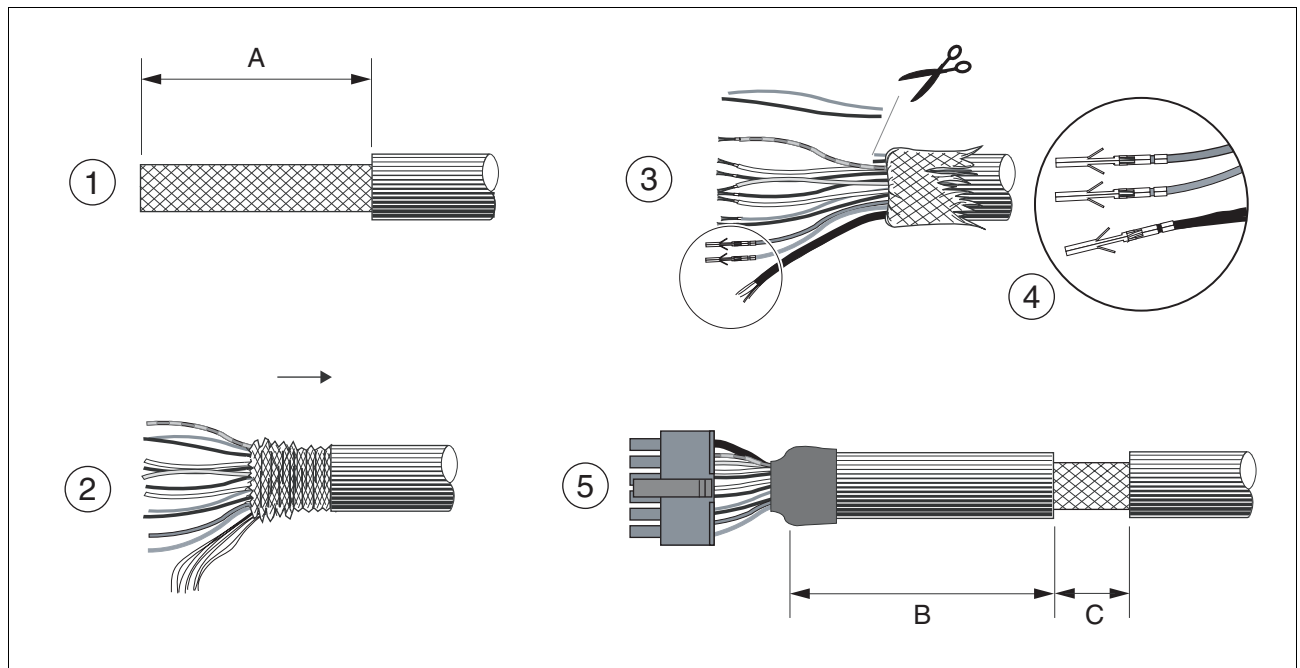

Figure 6.13 Steps (1-5) for fabrication of the sensor cable
- ▶ Use prefabricated cables to minimise the risk of a wiring error (from page 12-2). Step 5 in Figure 6.13 must be carried out even with prefabricated cable. The dimensions for positioning the shield on the housing are applicable when the included EMC plate is used.
- ▶ If you are not using prefabricated wiring, follow the procedure and the dimensions in Figure 6.13.